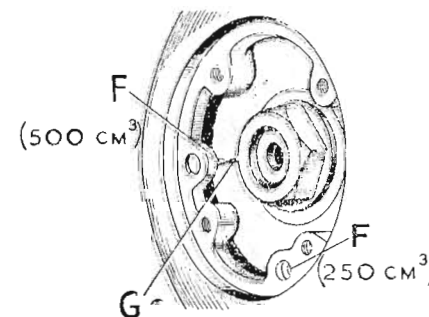

FIGURE 14.
Provision is made on all engines for the use of this device, comprising a pointer (F) FIG. 14, on the interior of the chaincase cover and marker line (G) on the alternator rotor, both of which are exposed after removal of the circular cover on the front of the chaincase. The position of the pointer differs for the 2503 cm and 500 cm3 models. The strobelight must be connected in accordance with the manufacturer's instructions, and it is important to note that an independent battery must be used for this operation, not the one on the machine.